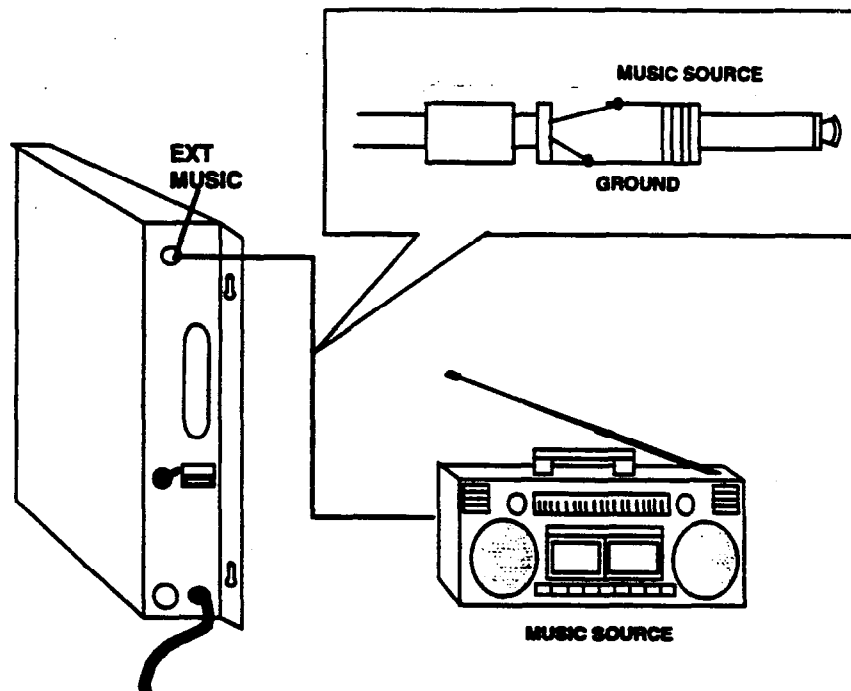

Figure 15
1. Connect the external music source to the external music jack using a 1/8 in. (3.5 mm) mini photo plug. See Figure 15.